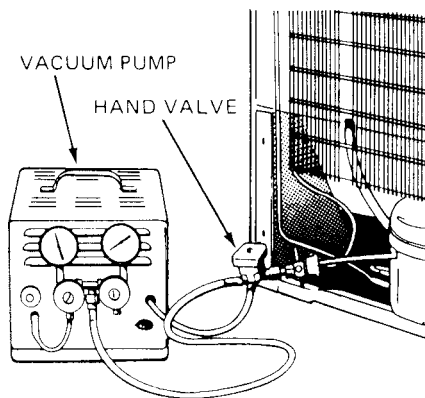

Fig. 12-8 Vacuum pump and hand valve. (Kelvinator)
6. Install a hand valve and a charging hose. Connect the hose to the vacuum pump and evacuate the system. See Fig. 12-8.